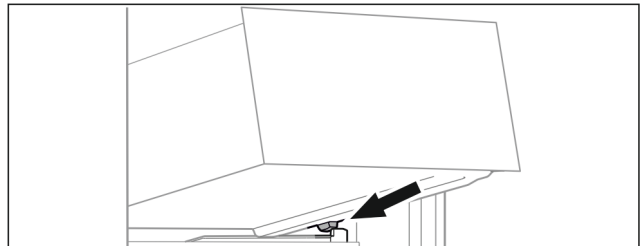

Fig. 55
- ▶ Place drawer at an angle behind the stoppers on the moulded rib. (see Fig. 55)